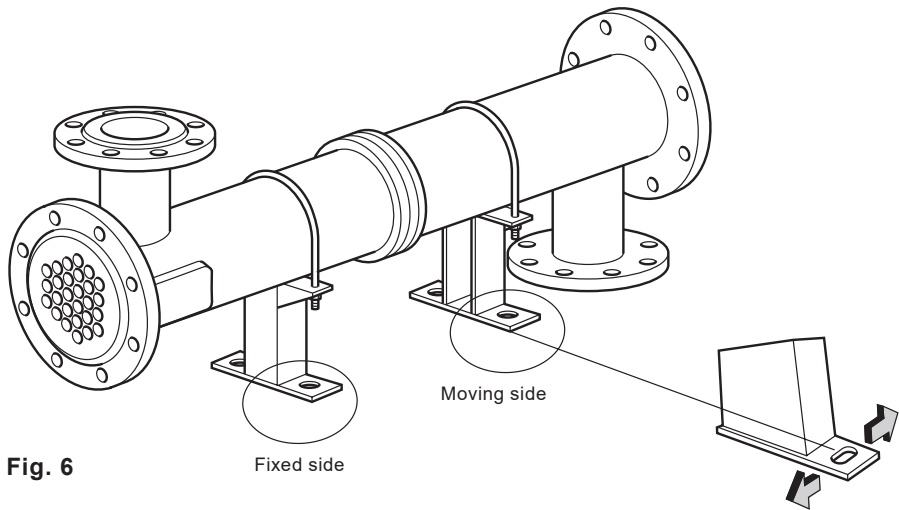

Fig. 6
4.7 Loosen the saddle bolts at one end of unit to allow free expansion (Figure 6).